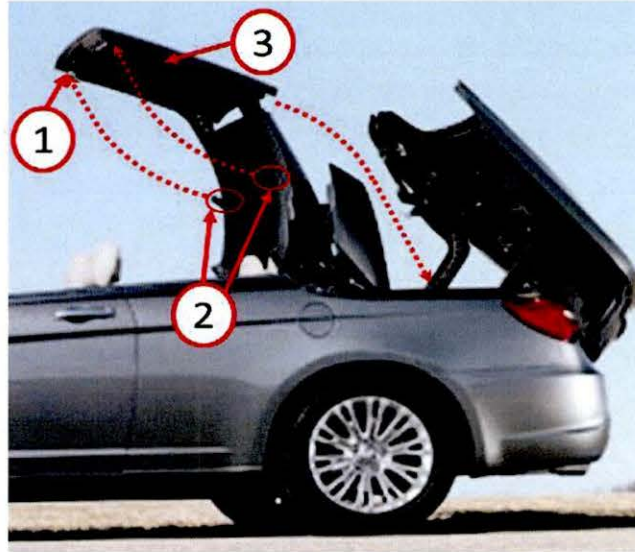

Fig. 1 Hard Top Down Capture System
The hard top assembly is equipped with a down capture mechanism which locks it into the stowed position when lowered. If the hook assembly (2) does not fully engage the down capture mechanism (1) the roof assembly may produce a rattle or clunk due to insufficient retention of the hard top at the hook assembly(Fig. 1). If the customer describes the symptom, perform the Repair Procedure.